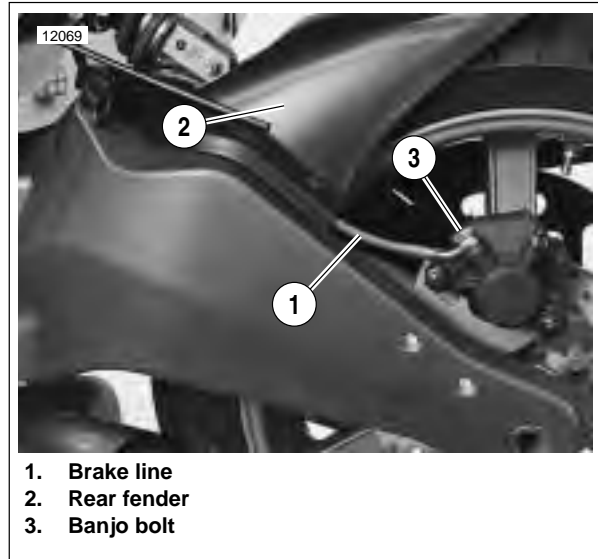

Figure 2-57. Rear Brake Line
5. See Figure 2-57. Remove the rear wheel fender. See 2.36 FENDERS.